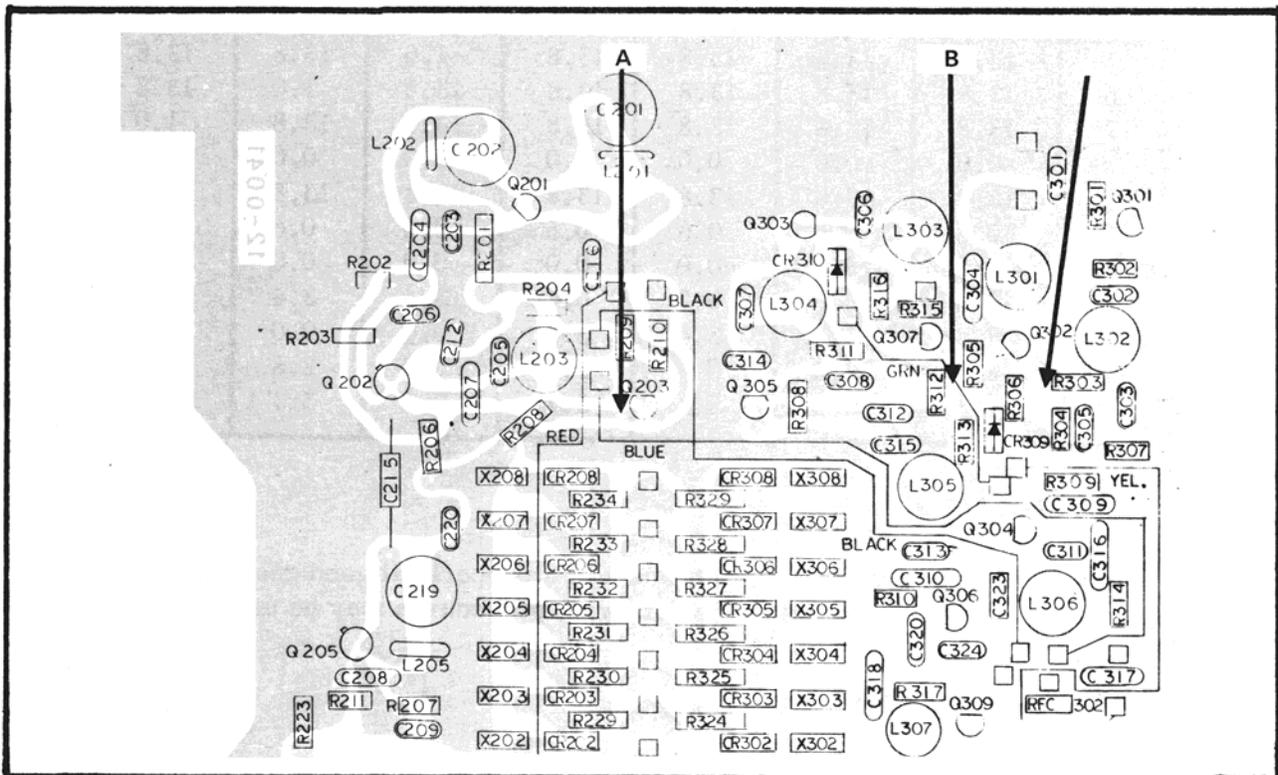

Figure 4-2. Switch Test Point Locations (Partial of Main PC Board Component Side)
4. Make DC measurements as shown in Table 4-9. Refer to Figure 4-2 for test point locations.